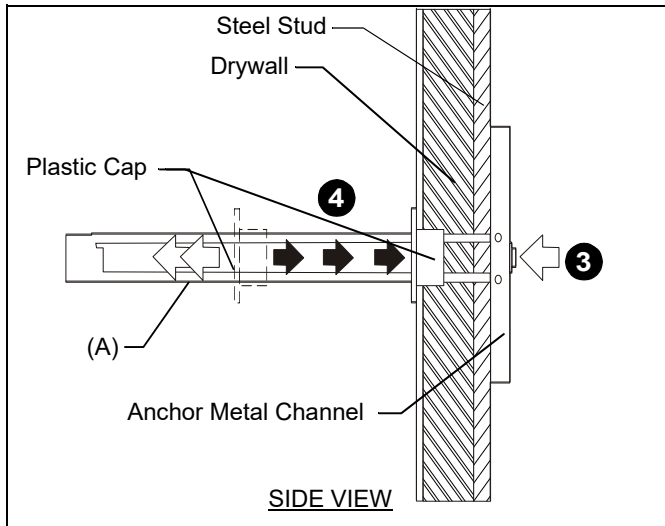

Figure 6
3. Holding plastic straps on anchor (A), pull anchor away from wall until channel rests flush behind wall, making sure anchor channel is positioned vertically on stud. (See Figure 6)
4. Slide plastic cap on anchor (A) towards wall until flange of cap is flush with wall. (See Figure 6)